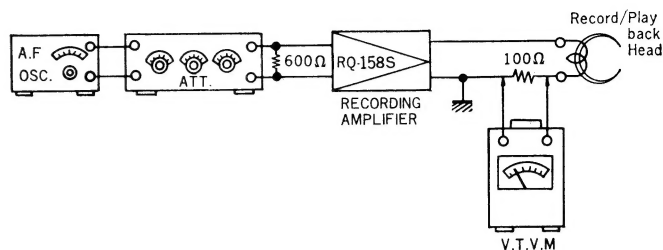

Fig. 6
Measuring Circuit: Refer to Fig. 6.
2. As shown in Fig. 6, connect output of AF Oscillator to Microphone Input Jack of model RQ-158S through Attenuator (terminate with 600  $\Omega$  if impedance of attenuator is 600  $\Omega$ ). Disconnect wiring from ground side of Record Head; insert 100  $\Omega$  resistor between lead wire and terminal; connect V.T.V.M. across resistor.